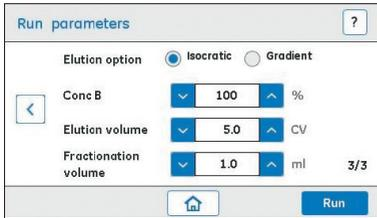

Fig 12. ÄKTA start display: Screenshot of **Run parameters** screen (3/3).
24. Enter **Wash out unbound volume** = 10 CV. Tap the forward arrow to go to screen (3/3) (Fig 12).